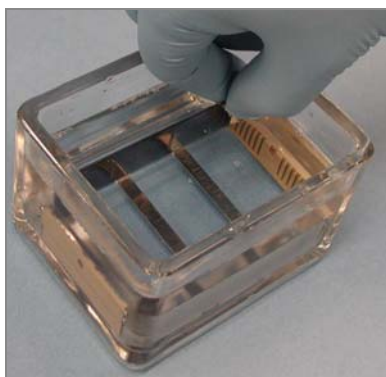

Figure 146 Placing BeadChips in Wash Dish Containing PB1
6. Immediately and carefully slide each BeadChip into the wash rack one at a time, making sure that the BeadChip is completely submerged in the PB1 (Figure 146).